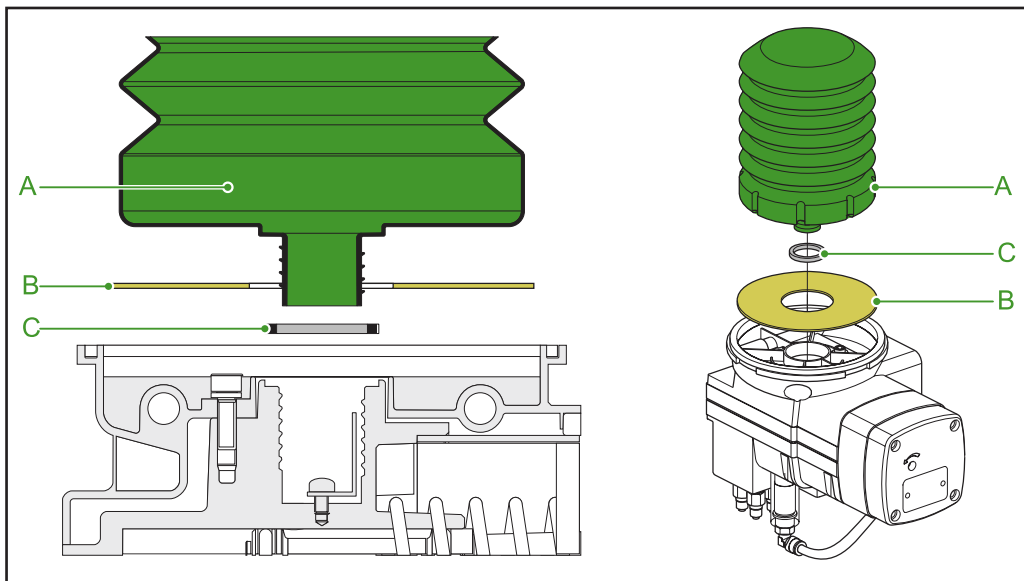

fig.7
3. Remove and replace the rubber gasket (Fig 7 C) and the cardboard disc (Fig 7 B) with the elements supplied with the new cartridge.